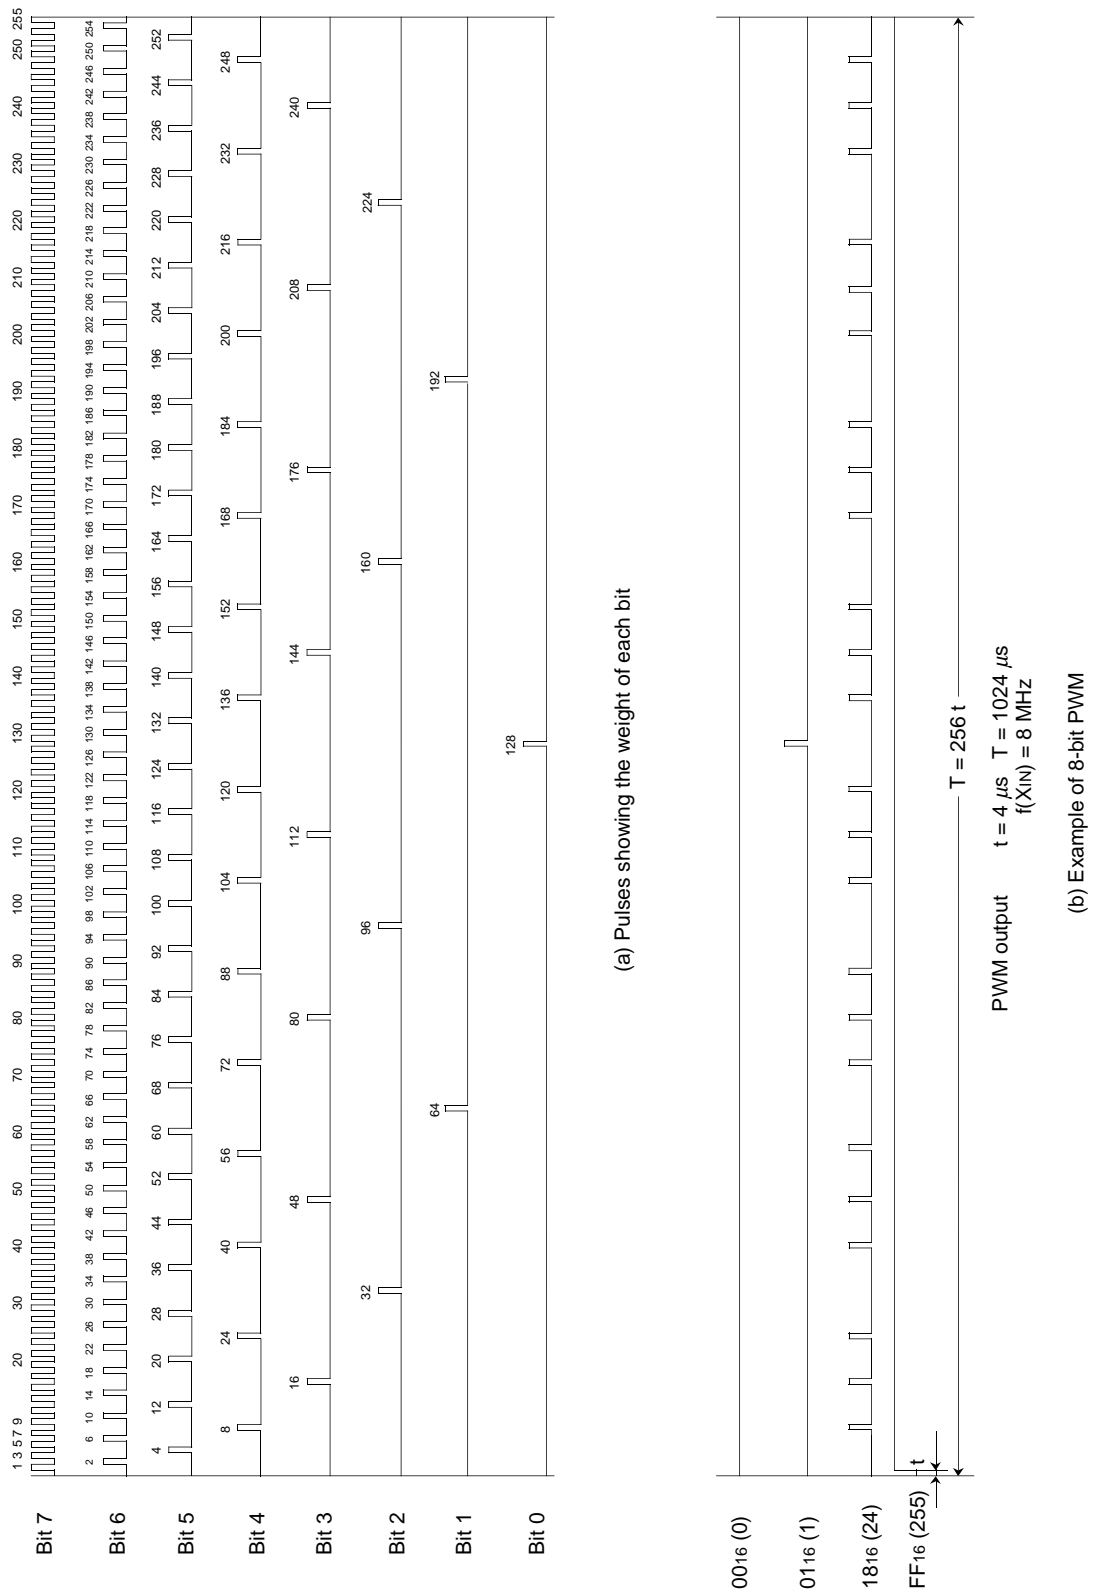

Fig. 16. 8-bit PWM timing
Figure 16 shows the 8-bit PWM timing. One cycle (T) is composed of 256 (2^8) segments. The 8 kinds of pulses relative to the weight of each bit (bits 0 to 7) are output inside the circuit during 1 cycle. Refer to Figure 16 (a). The 8-bit PWM outputs waveform which is the logical sum (OR) of pulses corresponding to the contents of bits 0 to 7 of the 8-bit PWM register. Several examples are shown in Figure 16 (b). 256 kinds of output (“H” level area: 0/256 to 255/256) are selected by changing the contents of the PWM register. A length of entirely “H” output cannot be output, i.e. 256/256.
(4) Output after Reset